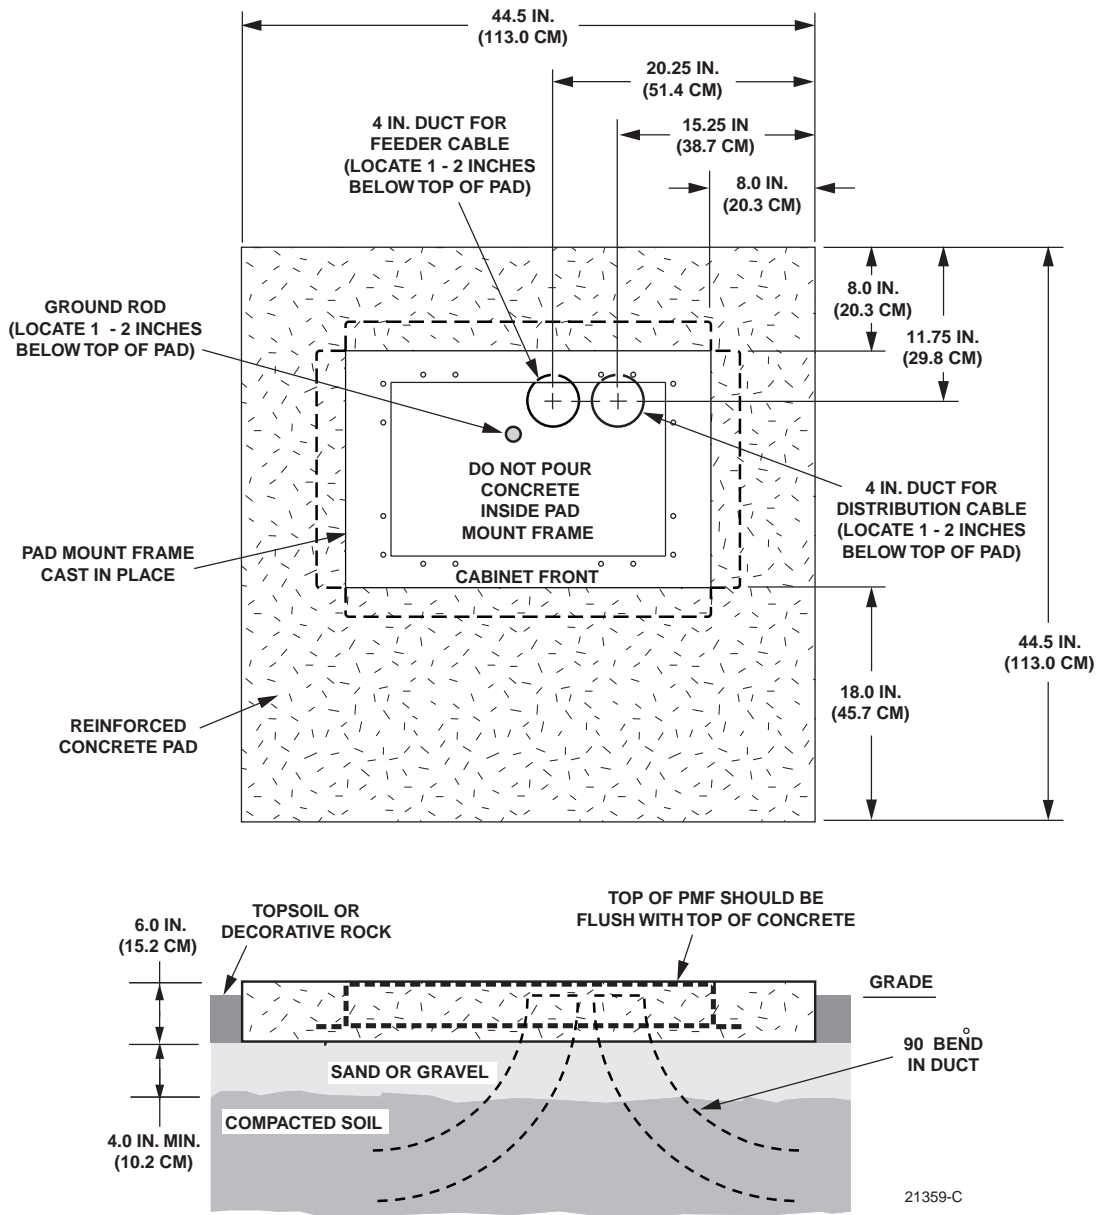

Figure 11. Constructing the Concrete Pad for the Outdoor 288 Termination Cabinet
Prepare a base for the concrete pad that meets all local code requirements. The base must have a footing of 4 to 6 inches (10.2 to 15.2 cm) of sand or gravel (per local practice) on firmly compacted soil. Refer to the construction diagram in Figure 11 for details.
2. Locate the PMF as shown in the construction diagram (see Figure 11). When installed, the top surface of the PMF must be flush and level with the top of the concrete pad.
Install a grounding system (not provided) that meets all local electrical codes. Check local codes for grounding system installation, use of clamps, wire size, and any other grounding requirements. Typically, #6 AWG copper wire is used for the ground wire. If the grounding system includes a ground rod, install the rod (see Figure 11) within the PMF opening at the indicated point. When installed, the top of the rod should be located 1 to 2 inches (2.54 to 5.08 cm) **below** the top of the finished concrete pad. Leave sufficient slack in the grounding wire to allow it to be routed into the cabinet after the cabinet is mounted on the pad.